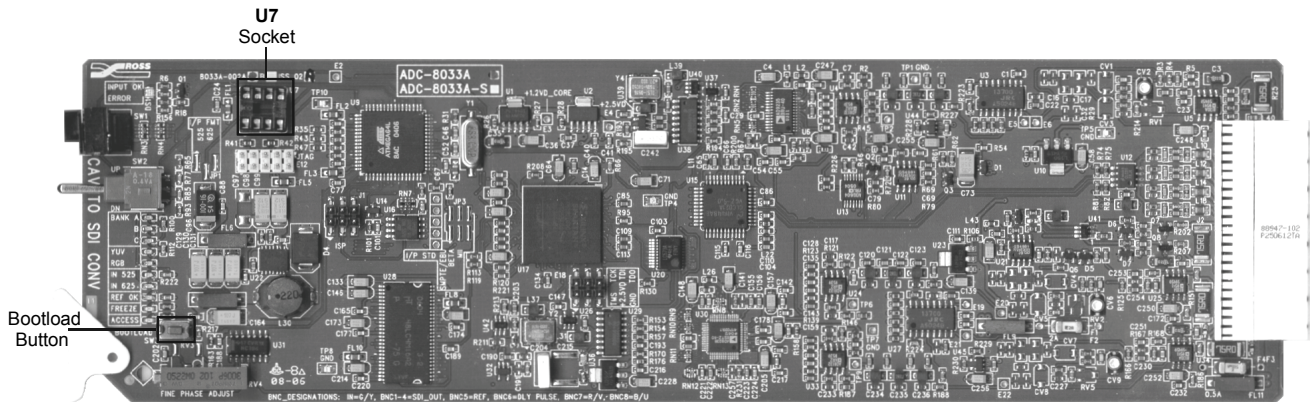

Figure 4. ADC-8033A(-S) Upgrade Socket and Label Locations
2. With the card out of the frame, refer to Figure 4 and the card labeling to locate chip socket **U7**.
3. Refer to Figure 4 and the card labeling to locate socket **U7**.
1. With the card out of the frame, refer to Figure 4 and the card labeling to locate the **U7** socket.